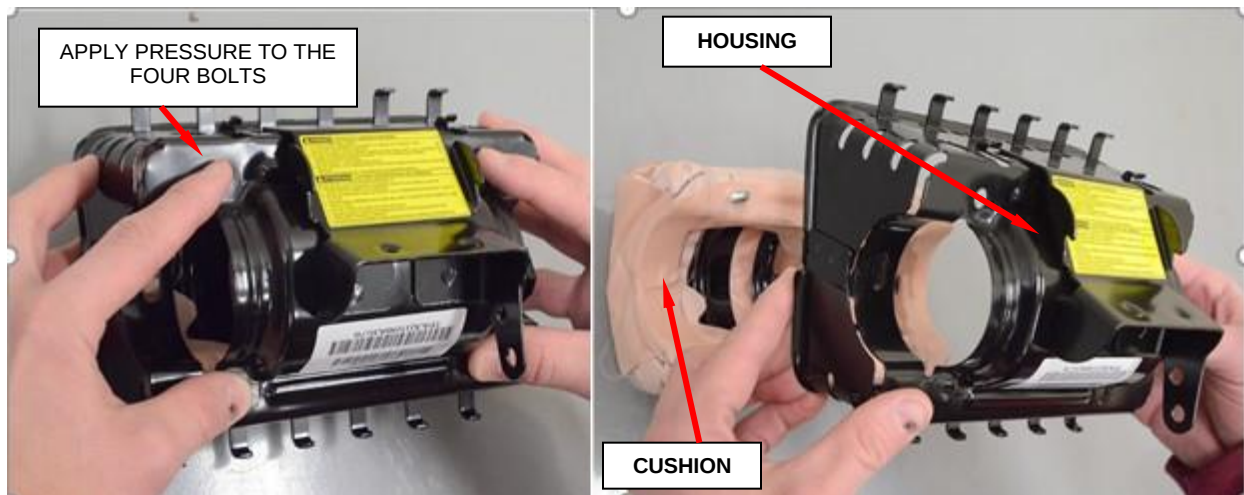

Figure 54 – Remove Airbag Cushion from Housing
- h. Remove airbag cushion from housing by applying pressure to the bolts, set cushion aside (Figure 54).